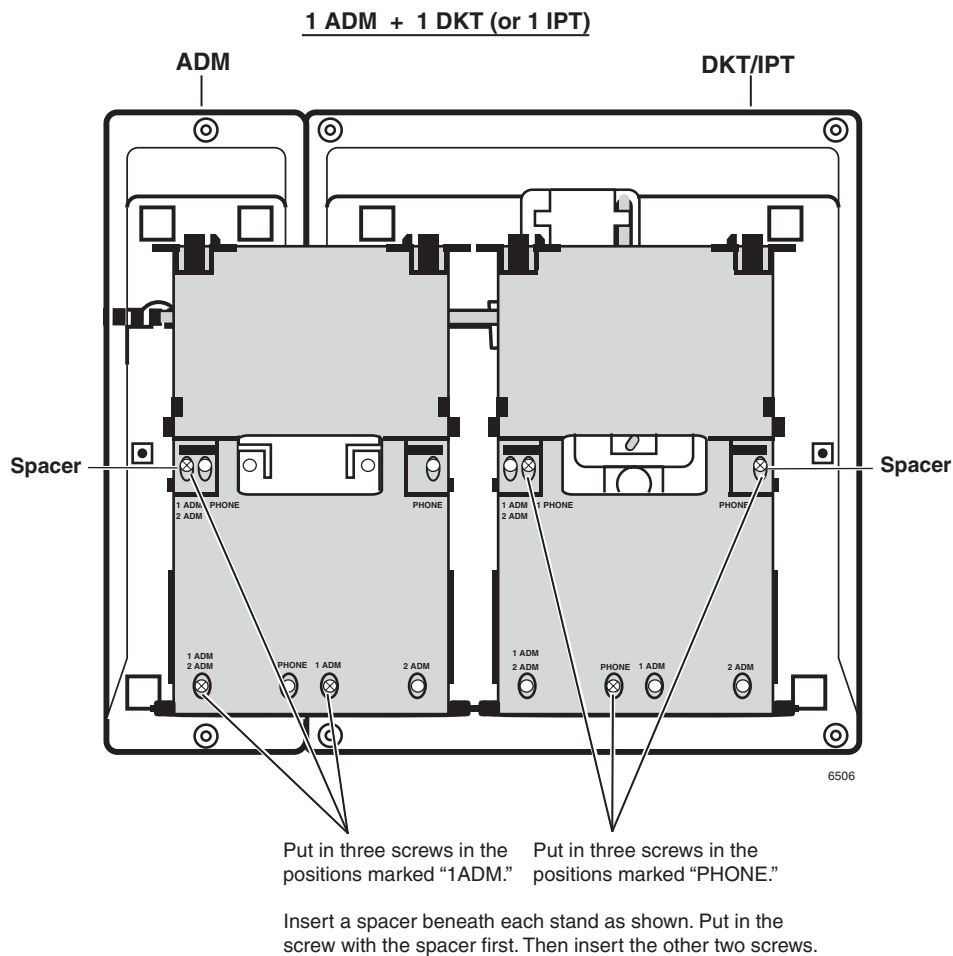

Figure 11-20 Attach Tilt Stands to DKT/IPT and One ADM
5. Attach Tilt Stand to bottom of telephone with screws (see Figure 11-20).